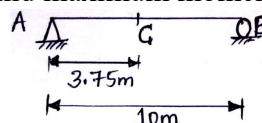

Fig.Q3
- 3 Determine the maximum shear force and moment at section 'C' for the beam shown in Fig.Q3. The beam is traversed by UDL of intensity 20kN/m extended over a length of 4m. Find the absolute maximum shear and maximum moment.